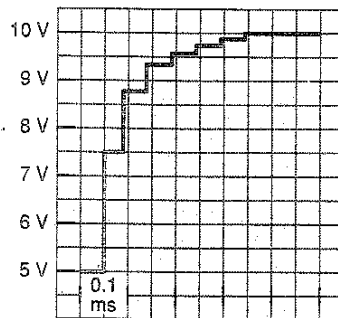

FIGURE 29-1.
7. Eight steps are required to complete a conversion. About 2000 conversions occur per second for  $10\text{ V}$  input. See Figure 29-1.